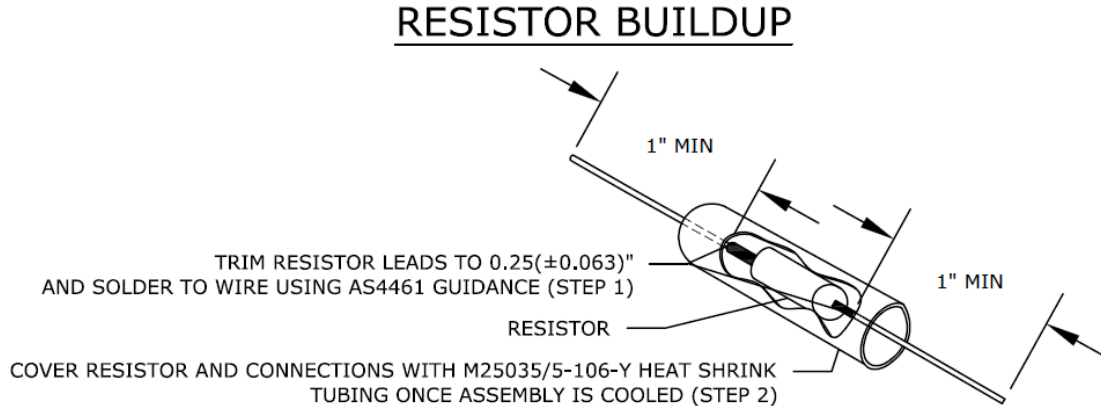
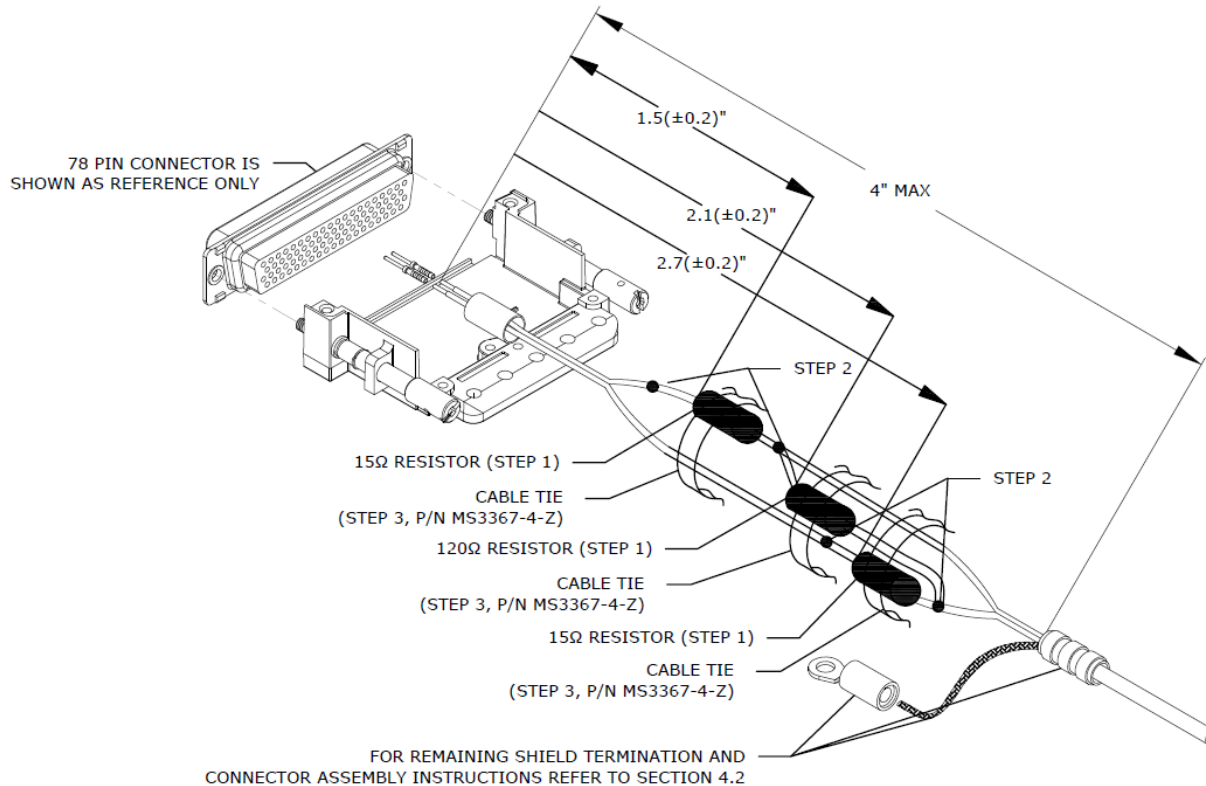

Figure 3-10 Wire P/N M27500 G5 Resistor Preparation
Figure 3-11 Wire P/N M27500 Placement of CAN Bus Components
- Method B should be used for component installations utilizing shielded twisted-pair cable, MIL-C-27500, see Figure 3-10 and Figure 3-11.
Figure 3-10 shows the preparation procedure for the components into the wiring harness. For part numbers of resistor, see Section 3.2.1. Figure 3-11 shows the placement requirements of the resistors on the CAN bus wiring. See Section 5 for complete wiring interconnect details.
1. Create resistor buildups as shown in Figure 3-10.